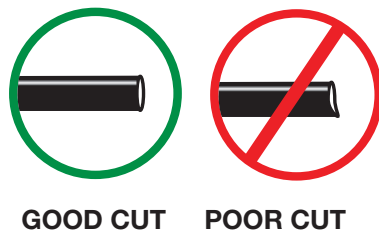

fig. 10
*Use the included hose cutter (Part number: 10530). Cut all hose ends as squarely and as smooth as possible (fig. 10).*